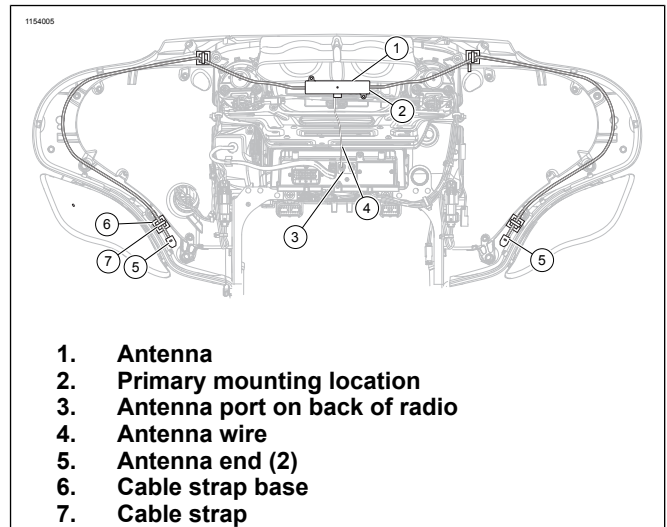
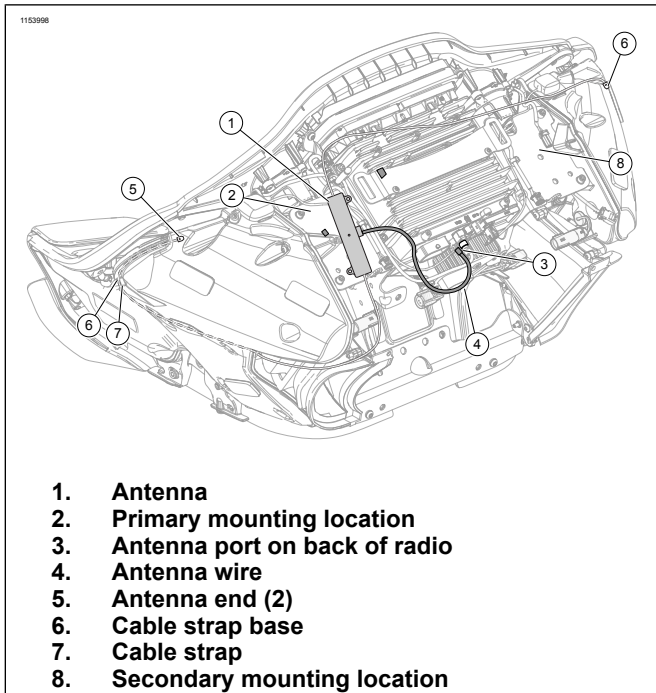
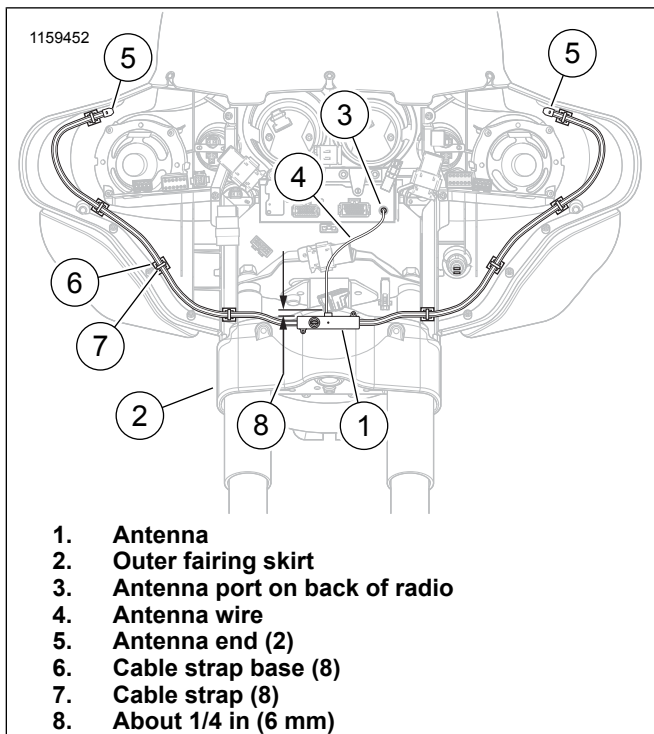
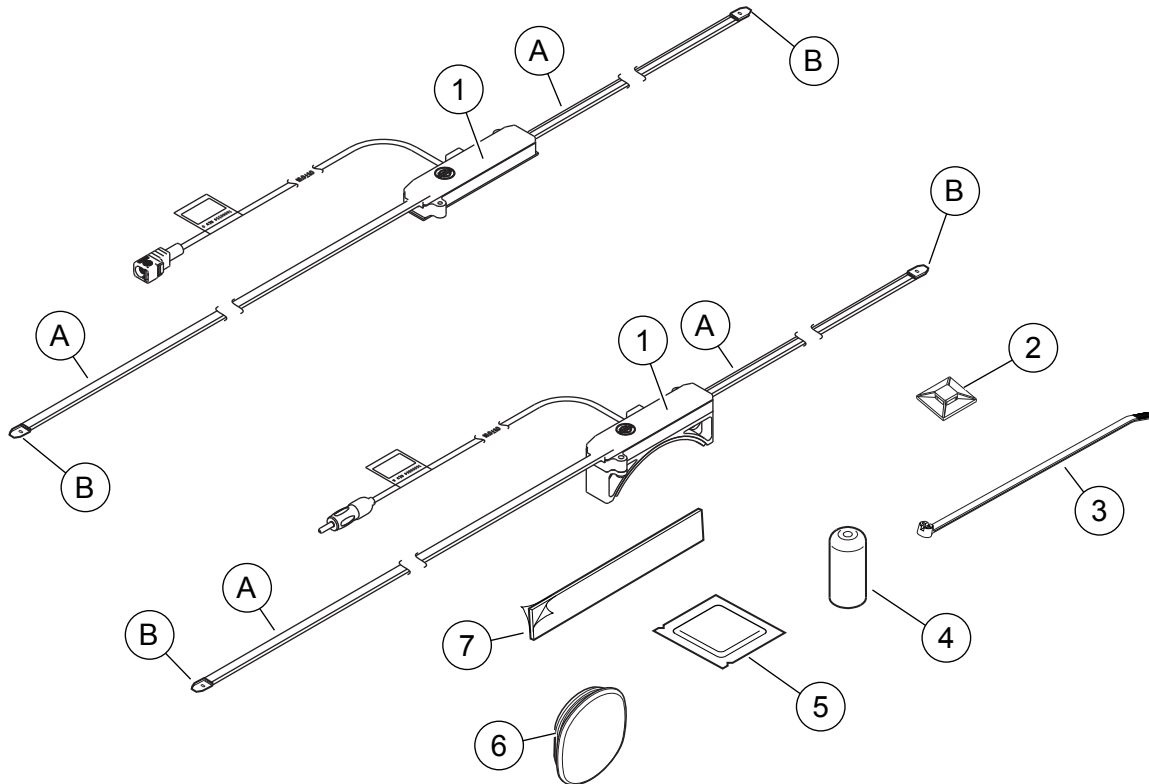

Figure 1. Antenna Connections and Routing
Figure 2. Antenna Connections and Routing
Figure 5. Antenna Element Routing (FLHT Models with Standard Headlamp)
Figure 8. Service Parts: Boom! Audio Hidden Antenna Kit
Refer to Figure 8 and Table 1.
1. See Figure 1 or Figure 2. Clean antenna mounting surface under windshield vent with alcohol cleaning packet (see Figure 8, Item 5). Mount antenna as shown in the correct figure.
2. Unplug original equipment (OE) AM/FM connector.
3. Plug in antenna wire (4) into antenna port (3) on back of radio.
4. Route antenna wire (4) around speaker pods. Secure with cable strap base (6) and cable straps (7).
5. Clean cable strap base (6) mounting surfaces with alcohol cleaning packet (see Figure 8, Item 5) before adhering cable strap base (6).
6. See Figure 8. **FLHX Models:** Remove grommet from antenna clearance hole in rear fender fascia. Install hole plug (6) from kit. **ALL Models:** Remove OE AM/FM antenna mast from rear of vehicle. Install antenna thread protector (4) over antenna base.
1. See Figure 5. Remove antenna (1) and alcohol cleaning packet (see Figure 8, Item 5) from kit.
2. Position curved mounting wedge of antenna (1) against front of vehicle outer fairing skirt (2), about 6mm (1/4 in) below black plastic trim strip.
3. Clean mounting area of skirt with alcohol cleaning packet (see Figure 8, Item 5). Allow to dry thoroughly.
4. Remove liner from adhesive backing of foam tape (see Figure 8, Item 7) on wedge.
1. See Figure 8. Remove antenna (1), foam tape (7) and alcohol cleaning packet (5) from kit.
2. Remove mounting wedge (1) from antenna housing.
4. See Figure 5. Test-fit antenna (1) against the inside of inner fairing as shown.
5. Clean mounting area of inner fairing and antenna with the alcohol cleaning packet (see Figure 8, Item 5). Allow to dry thoroughly.
6. Remove liner from adhesive backing on one side of foam tape (see Figure 8, Item 7). Fasten tape to antenna.
7. See Figure 6. Remove liner from adhesive backing on the second side of foam tape (see Figure 8, Item 7).
5. Clean mounting area of fairing mount bracket (2) and antenna (1) with alcohol cleaning packet (see Figure 8, Item 5). Allow to dry thoroughly.
7. Remove liner from adhesive backing on second side of foam tape (see Figure 8, Item 7).
9. Carefully position antenna to the inner fairing, as high as it will go against fairing mount bracket (2) as shown.